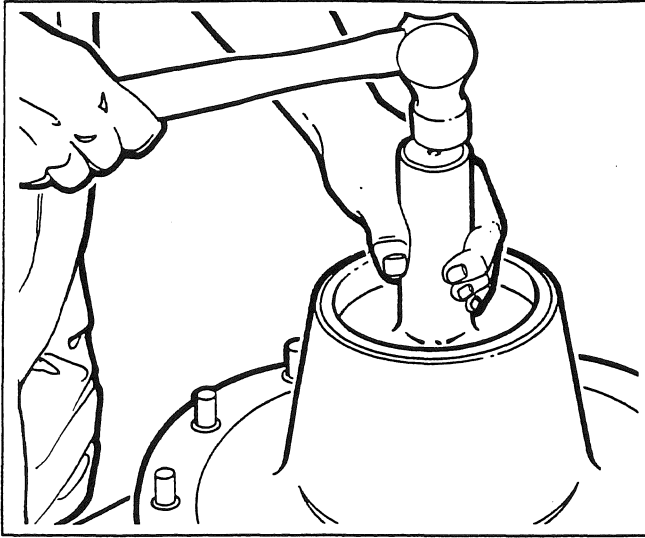

Fig. 15
1. Lubricate the outside diameter of the inner and outer bearing cups (25 and 27) with oil. Use a hammer and appropriate bearing driver to install the bearing cups into the wheel counterbores (see Fig. 15). Lubricate the wheel bore and inside diameter of the bearing cups with a generous amount of grease.